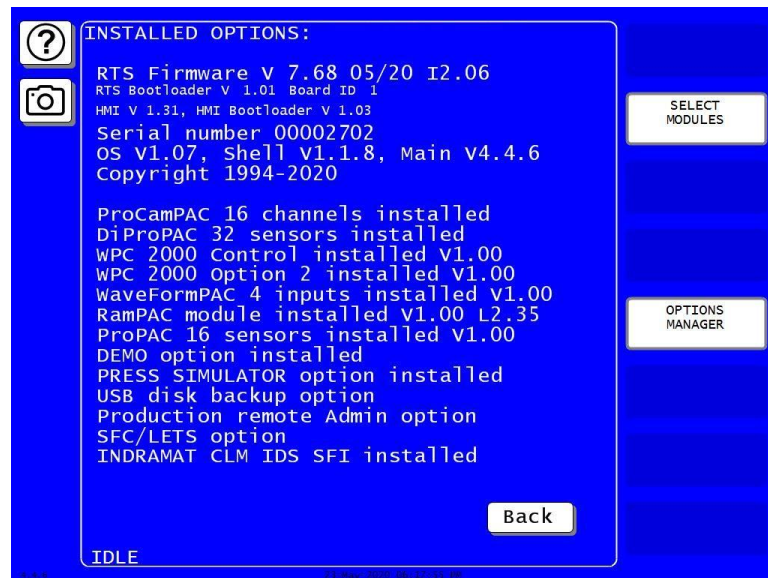

Figure 2-19. Installed Options Screen (yours may list different options)
1. On the SmartPAC PRO Main Program Menu, select INITIALIZATION MENU; then press INSTALLED OPTIONS. The Installed Options screen, shown in Figure 2-19 displays.